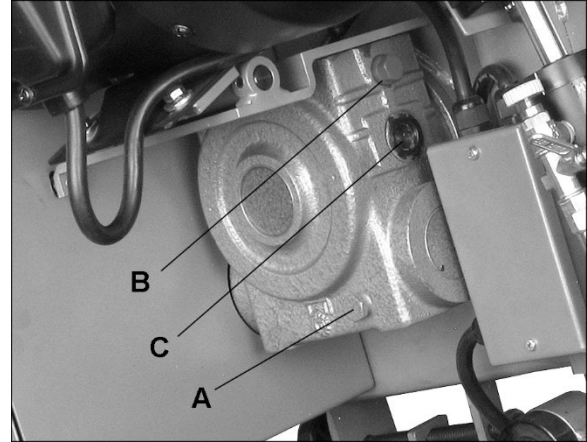

Figure 9-1: gearbox
3. Remove drain plug (A, Figure 9-1) and drain oil into suitable container. Reinstall drain plug.
4. Remove fill plug (B) and fill gear box until oil is level with mid-point of sight window (C). Do not overfill.